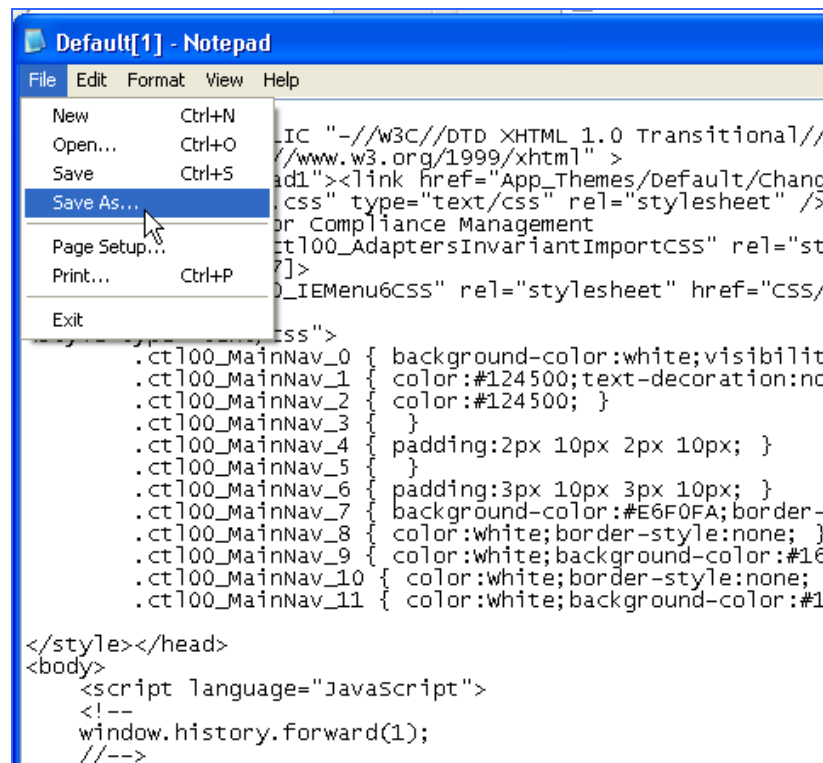

Figure 117 - Notepad Save As Screen
2. In the new window that opens, click on the File menu and select "Save As..." (Figure 117). Save the file to your computer.